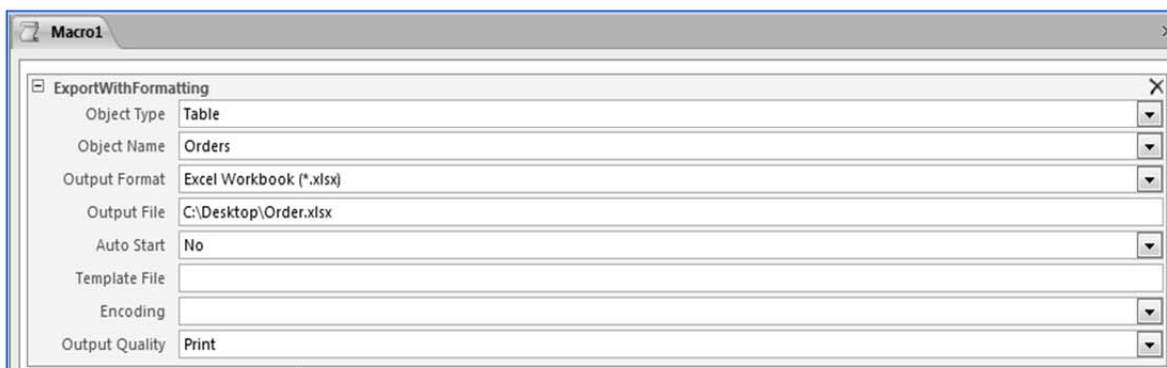

Fig. 4.2.6 : Box for each argument and type necessary values
3. When we select an action that needs more than one argument, it would appear, followed by a box for each argument as shown in Fig. 4.2.6.
NOTE: Output File Name should include the complete absolute path of the shared folder. *Macro Designer* appears, as shown in Fig. 4.2.6.